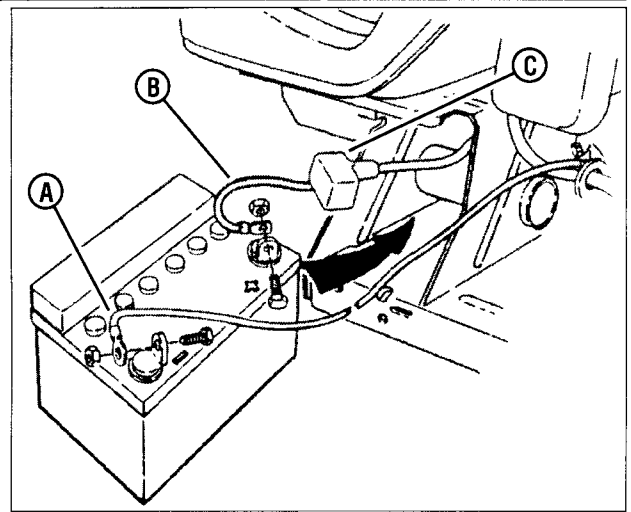

Figure 49: Connecting the battery
4. Observe and note the cable positions (**A and B, Figure 49**) on the battery.
2. Connect the red positive (+) cable (**B, Figure 49**) first, from the wiring harness to the positive terminal (+) on the battery, using the bolt and nut provided in the hardware bag. Connect the black negative (-) cable (**A**) last, to the negative terminal (-) on the battery, using the bolt and nut. Apply a small amount of grease over the terminals to prevent corrosion.
10. Connect the red positive (+) cable (**B, Figure 49**) first, from the wiring harness to the positive terminal (+) on the battery, using the bolt and nut provided in the hardware bag. Connect the black negative (-) cable (**A**) last, to the negative terminal (-) on the battery, using the bolt and nut. Apply a small amount of grease over the terminals to prevent corrosion.